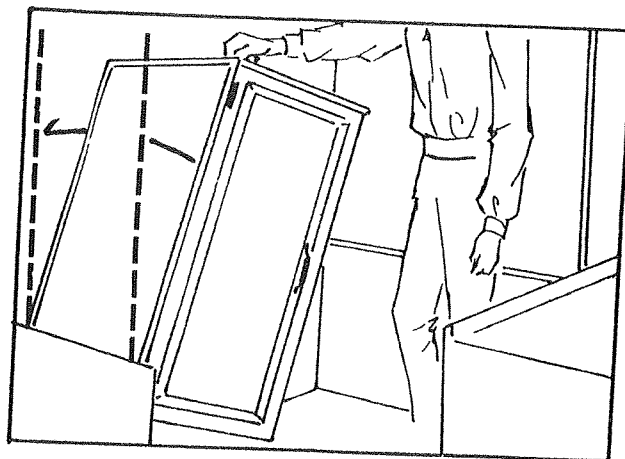

FIGURE 13
21. Grasp the handle located on the top of the wardrobe and raise the assembly until it is vertical. See Figure 13.